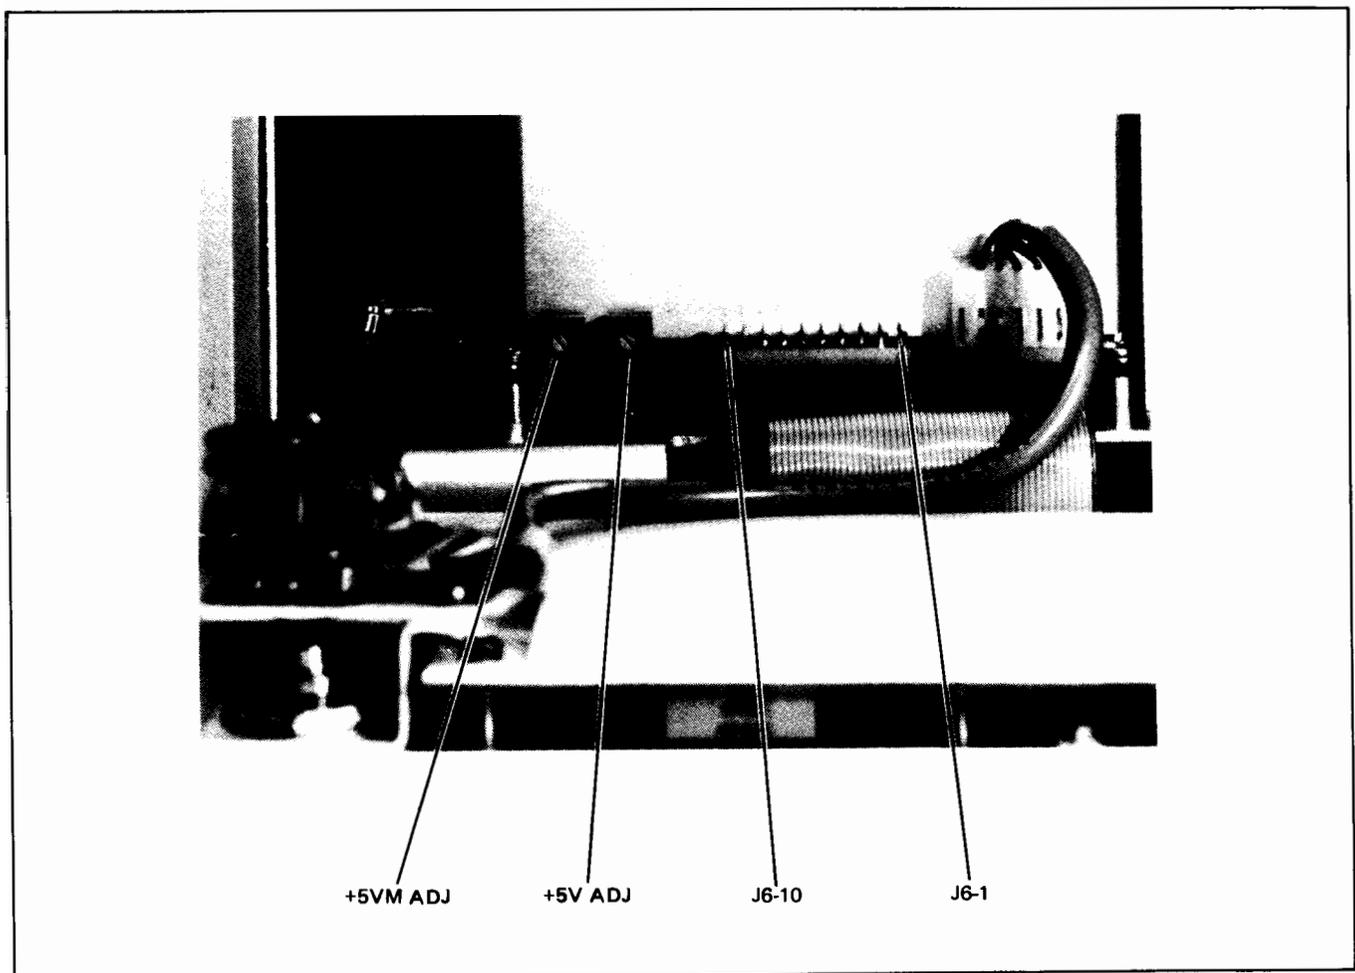

Figure 1-9. HP 2113A Computer Power Supply Field Adjustments and Test Points
- f. Connect positive lead of digital voltmeter to J6-5 (+5V test point) and connect common lead to J6-2 (common test point). (See figure 1-9.)